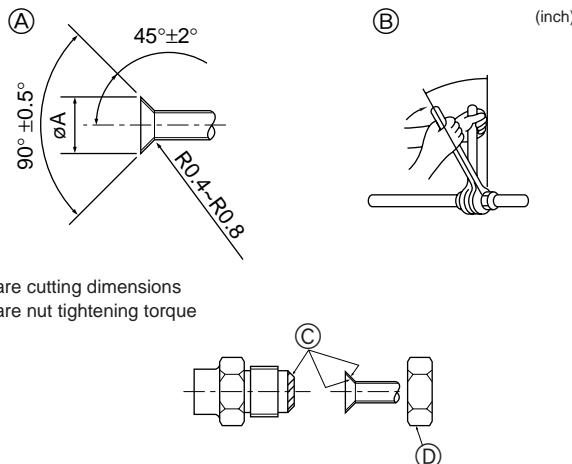

Fig. 4-2
(B) (Fig. 4-2)
4.2. Connecting pipes (Fig. 4-2)